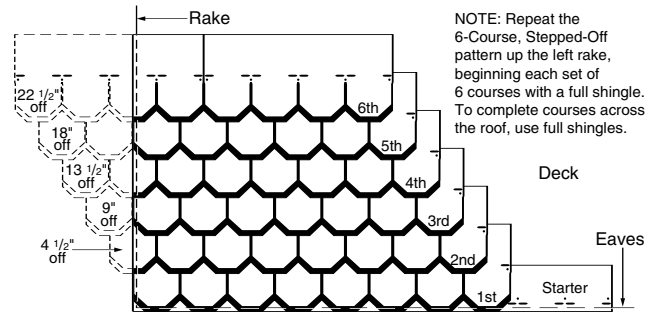

Figure 16-15: Four-and One-Half Off, Six Up (Carriage House).
2. Locate fasteners in starter strip about 1 1/2" up from the bottom edge, so they are centered under the first-course tabs. Continue with full 10" by 36" lengths along the eaves (Figure 16-15).
1ST COURSE: Apply a full shingle at the lower left corner of the roof, tabs flush with starter course (Figure 16-15).